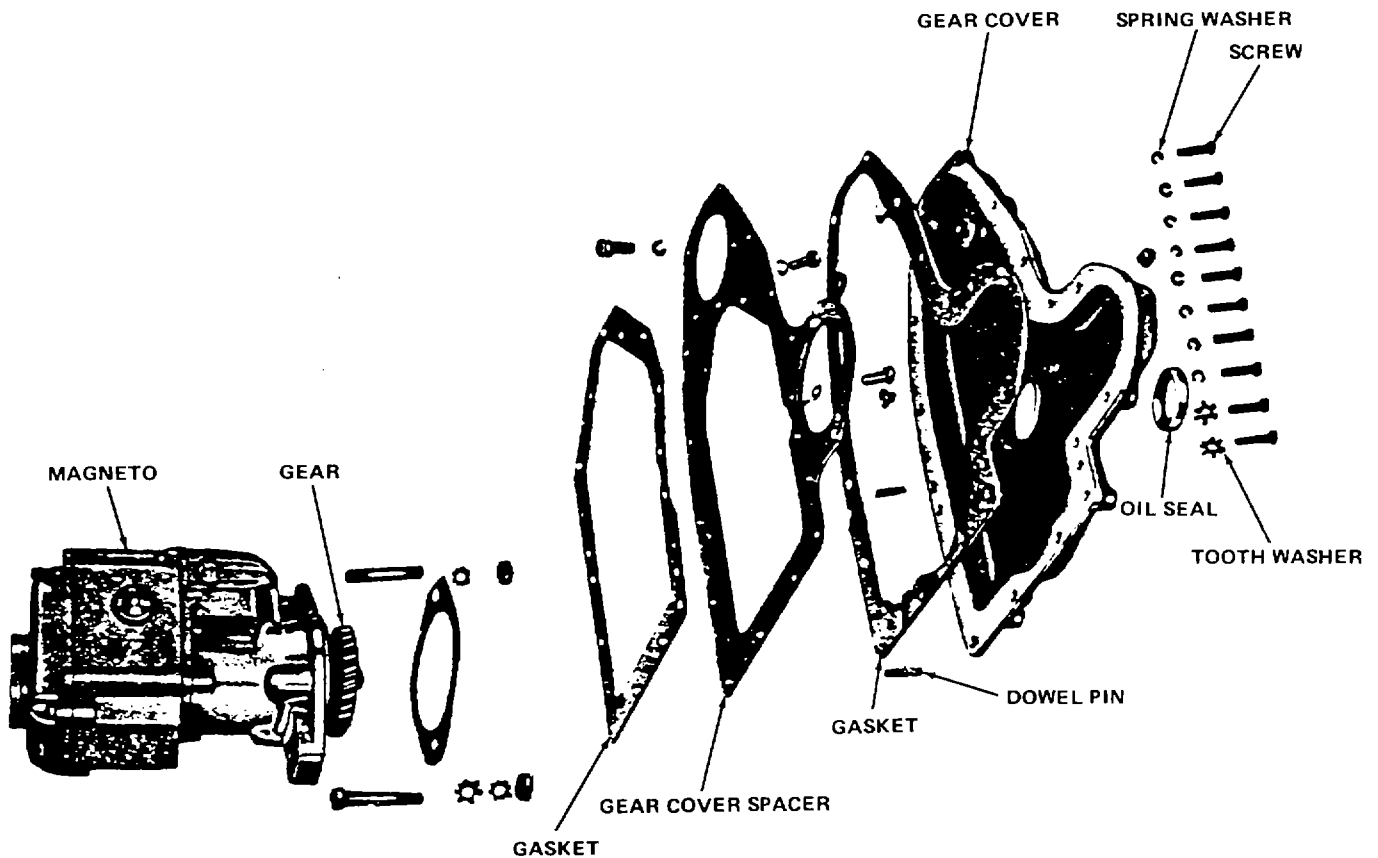

Figure 6-14. Gear Covers
i. Gear Cover. (Figure 6-14)
- (1) Remove ten 5/16-18" x 1 1/4" screws, eight spring lock washers and two external tooth lock washers.
- (2) Remove two 5/16-18" x 3/4" screws and lock washers.
- (3) Rap gear cover with soft hammer to break seal and remove gear cover.
- (4) Remove five 5/16-18" x 5/8" screws, three 5/16" lock washers and two 5/16" flat copper washers.
- (5) Remove gear cover spacer.
- (6) Remove two dowel pins.
- (7) Remove oil seal from gear cover.